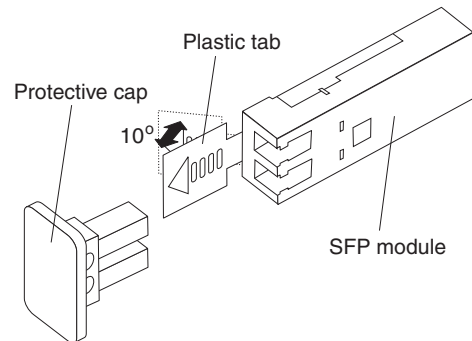

Figure 46. Unlocking the SFP module latch
- a. Unlock the SFP module latch by pulling the plastic tab outward 10°, as shown in Figure 46. Pull the failed SFP module from the mini hub.